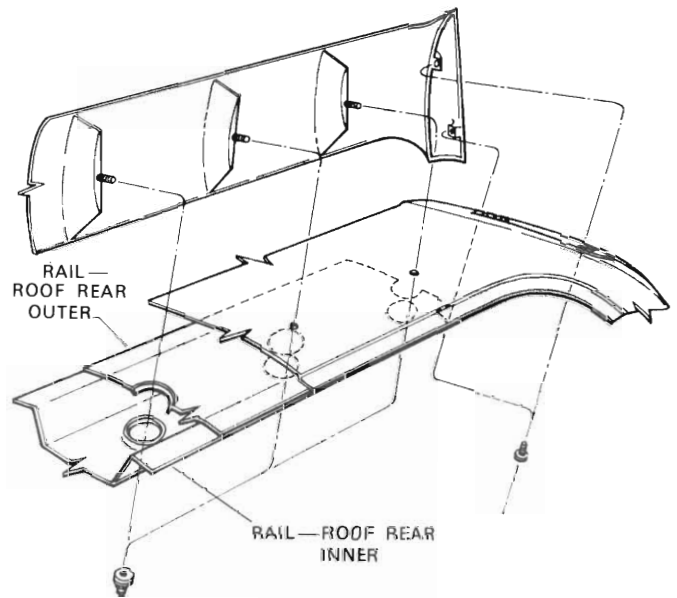

Fig. 46 - Wagon air-deflector detail
(1) Remove the tailgate window opening piping.
(2) Peel back the headlining from the tailgate window opening and the "D" pillar ends. Care must be taken not to tear the headlining.
(3) Lift the quarter window glass weatherstrip and carefully peel back the headlining approximately 7" to 9" to give access to remove the air deflector attaching nuts and screws.
(4) Remove the five nuts and the four screws (two on each side) attaching the air deflector to the roof (see Fig. 46) and remove the air deflector.